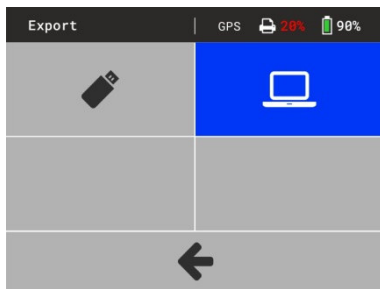

Figure 24
- Select within measuring instrument under menu measured data  / export  the transfer mode  (Figure 24) and confirm with  key.